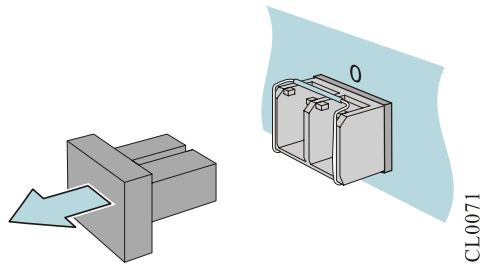

FIGURE 4-11 REMOVE DUST CAP OF THE SFP+ MODULE
- Step 3: Remove the dust cap of the SFP+ module, as shown in Figure 4-11.